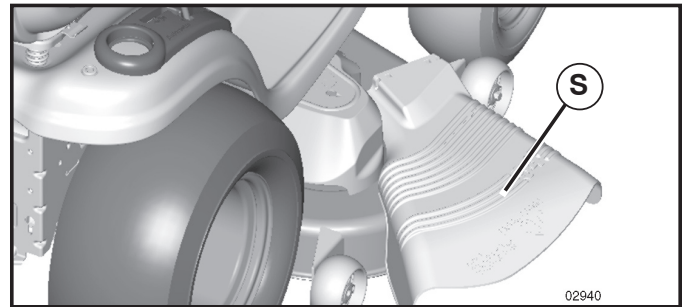

FIG. 9
CAUTION: Do not operate the mower without either the entire grass catcher, on mowers so equipped, or the deflector shield (S) in place (See Fig. 9).